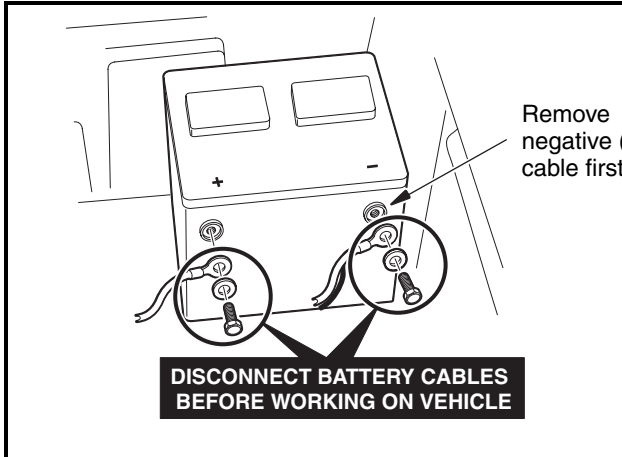
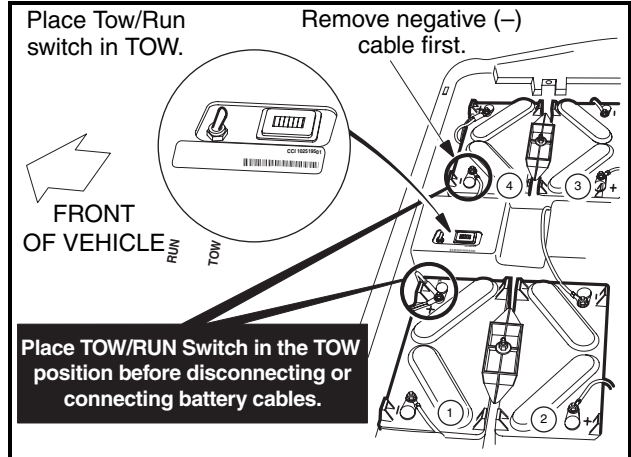

Figure 1 Battery Disconnect – Gasoline Vehicle
Figure 2 Battery Disconnect – Precedent Electric Vehicle
- **Disconnect battery cables, negative (–) cable first (Figure 1, Page 5).**
To avoid unintentionally starting the vehicle, disconnect the batteries as shown (Figures 2 through 6, starting on page 5).
- Connect the battery cables, positive (+) cable first. For gasoline vehicles, tighten hardware to 20 ft-lb (27.1 N·m) **(Figure 1)**. For electric vehicles, tighten hardware to 110 in-lb (12.4 N·m) **(Figures 2 through 6, starting on page 5)**. Coat terminals with Battery Terminal Protector Spray (CCI P/N 1014305) to minimize corrosion.